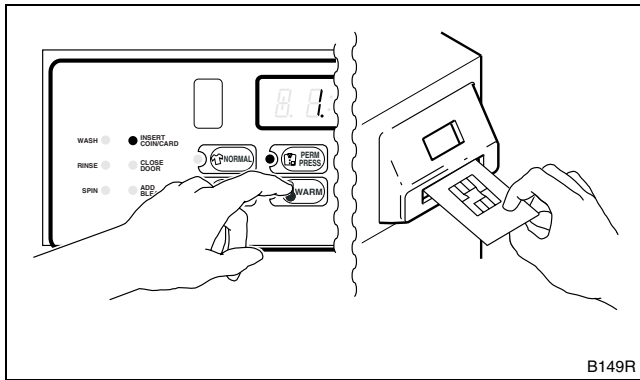

Figure 13
7. **For machines equipped with a cardreader:** Insert card into cardreader and follow the instructions. Refer to *Figure 13*. DO NOT REMOVE CARD UNTIL DISPLAY ON CARDREADER READS “Remove Card”.